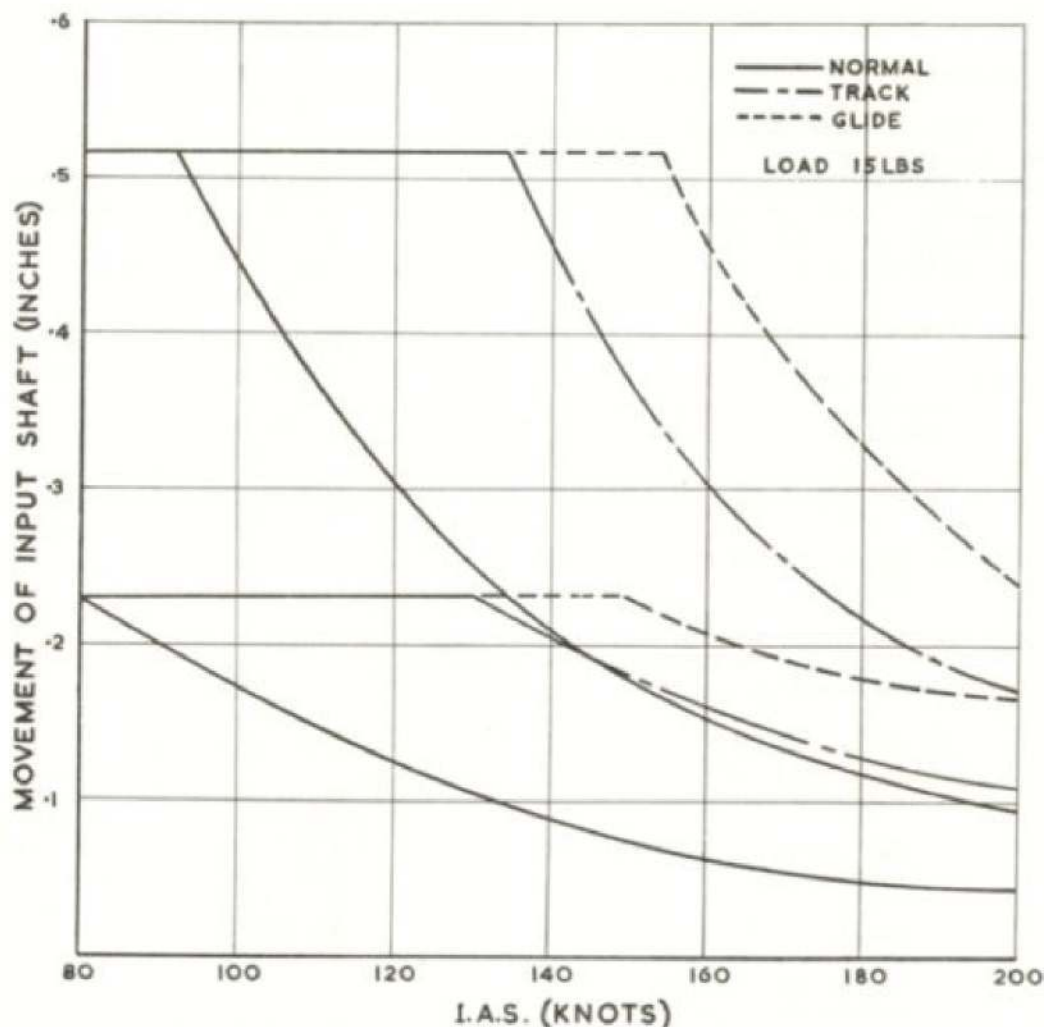

Fig.4 Elevator A.F.U. Track and glide calibration limits
- (8) During auto-pilot control on an I.L.S. approach, the elevator feel unit is given a degree of relief when TRACK is selected, and is further relieved when GLIDE is selected. To check track and glide calibration:-
- (c) Increase airspeed from 80 to 200 knots in 10 knot increments, and plot input shaft movement at each speed using calibration sheet, fig.4.